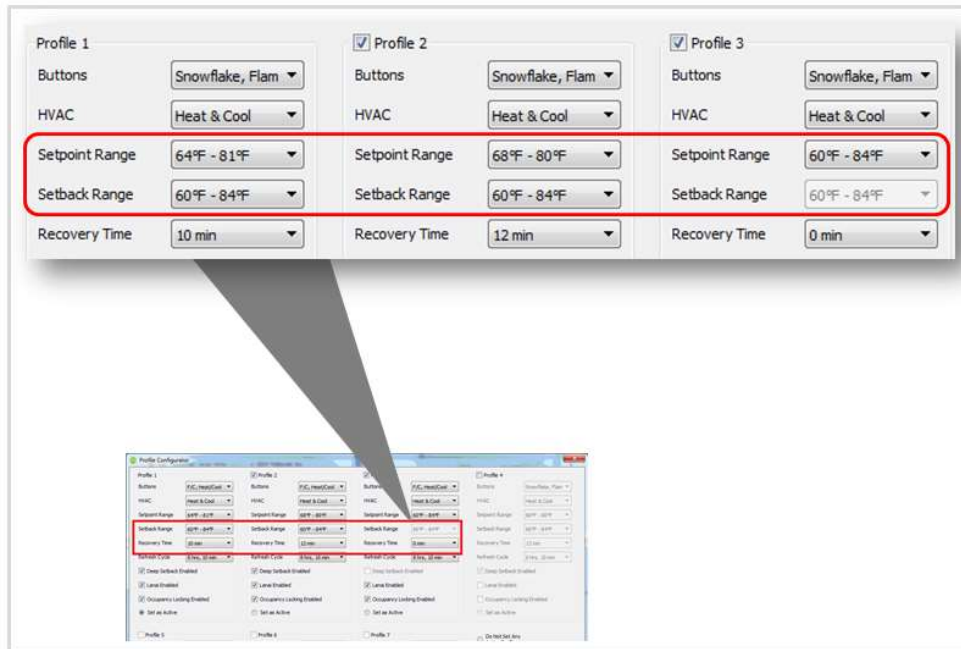

Figure 16
19. The setback range is the same for all three profiles, but the **Recovery Time** is longer for unsold, and turned off for VIP (Figure 16).